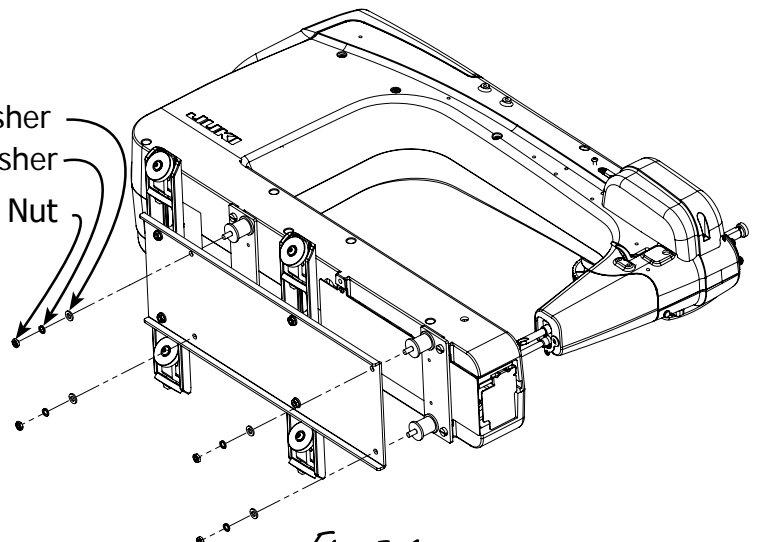

Fig. 5-4
5-4: Attach the Machine Dampening Plate and Wheels to your Juki Quilt Virtuoso Pro by inserting the threaded rods of the Rubber Dampeners into the holes on the Dampening Plate as shown in Fig. 5-4. Slide (1) M6 Washers, (1) M6 Lock Washers, and (1) M6 Jam Nuts over each threaded rod and tighten using the M10 Wrench.